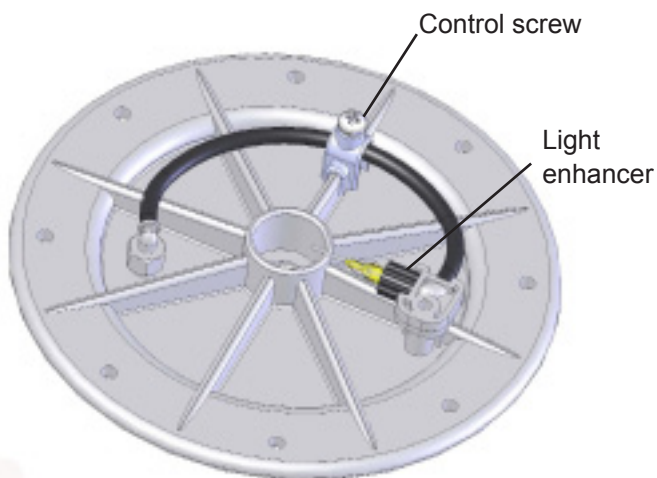

**Figure 5**
2. Make sure the spare o-rings are in place. Place the union winterization plugs in the Laminar adjustment nuts and screw them in place on the Laminar body (Figure 5).
3. Connect the Laminar to the supply pipe with the union connection (Figure 5). Make sure the o-ring stays in its groove and the connection surface is clear of all glue/dirt.
5. Place the deck housing lid/Laminar unit in the deck housing (Figure 5). If the hoses in the deck housing prevent the proper seating of the deck housing lid, you may have to loosen the union nut briefly and allow the hoses to twist, so that they spiral out of the way, into the deck housing.